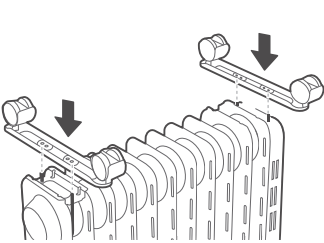

figure 1
2. As shown in figure 1, align the mounting hole of a set of caster assembly and install it on the screw of the caster pad plate at the end of the radiator fin, and The other caster assembly is aligned to the screws mounted at the bottom of the control box.